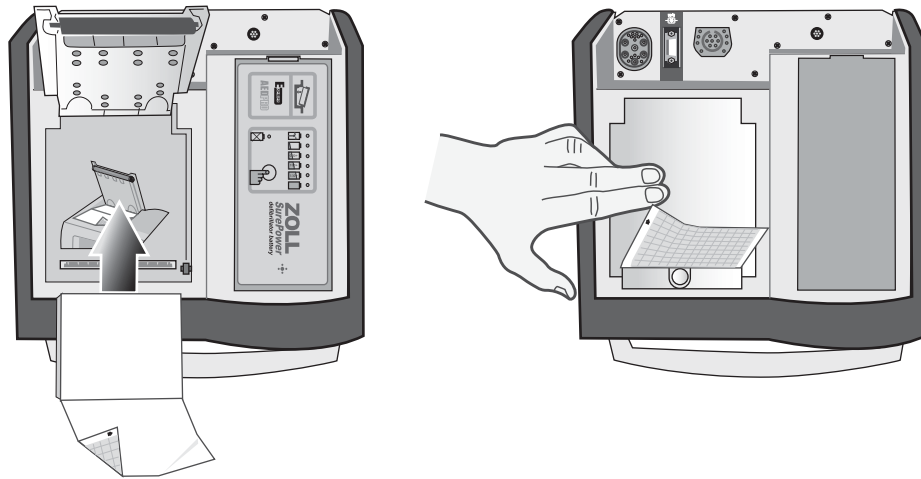

Figure 13-6. Inserting the Paper and Closing Printer Door
- Place the paper back into the unit and close the cover (see Figure 13-6).